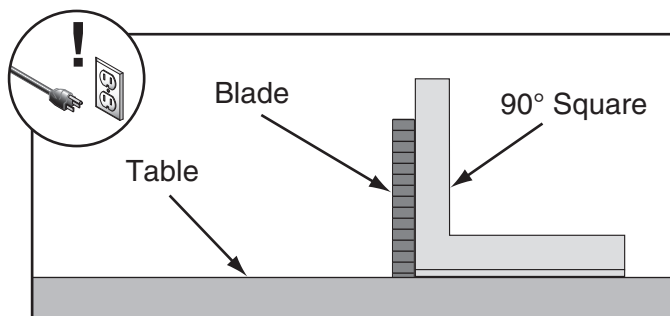

Figure 99. Checking blade at 90°.
3. Place 90° square against table and blade so it contacts blade evenly from bottom to top, as shown in **Figure 99**. Make sure a blade tooth does not obstruct placement of square.